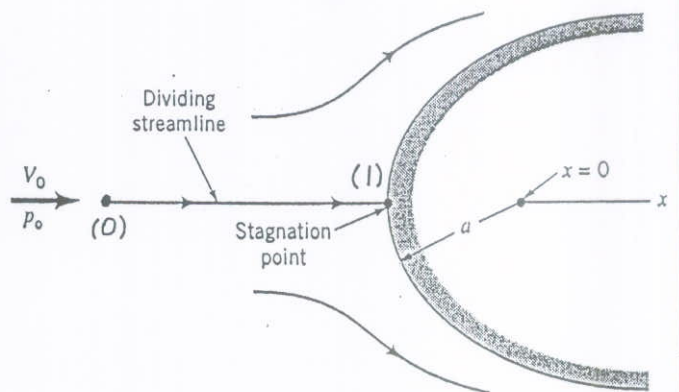

FIGURE P3.5
3.5 An incompressible fluid with density  $\rho$  flows steadily past the object shown in Video V3.7 and Fig. P3.5. The fluid velocity along the horizontal dividing streamline ( $-\infty \leq x \leq -a$ ) is found to be  $V = V_0(1 + a/x)$ , where  $a$  is the radius of curvature of the front of the object and  $V_0$  is the upstream velocity. (a) Determine the pressure gradient along this streamline. (b) If the upstream pressure is  $p_0$ , integrate the pressure gradient to obtain the pressure  $p(x)$  for  $-\infty \leq x \leq -a$ . (c) Show from the result of part (b) that the pressure at the stagnation point ( $x = -a$ ) is  $p_0 + \rho V_0^2/2$ , as expected from the Bernoulli equation.